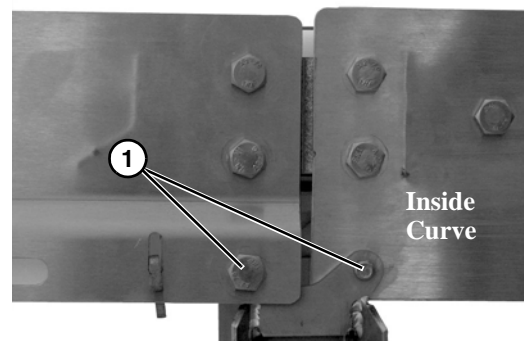

Figure 9
5. Tighten bolts on both sides of sections (**Figure 9, item 1**).